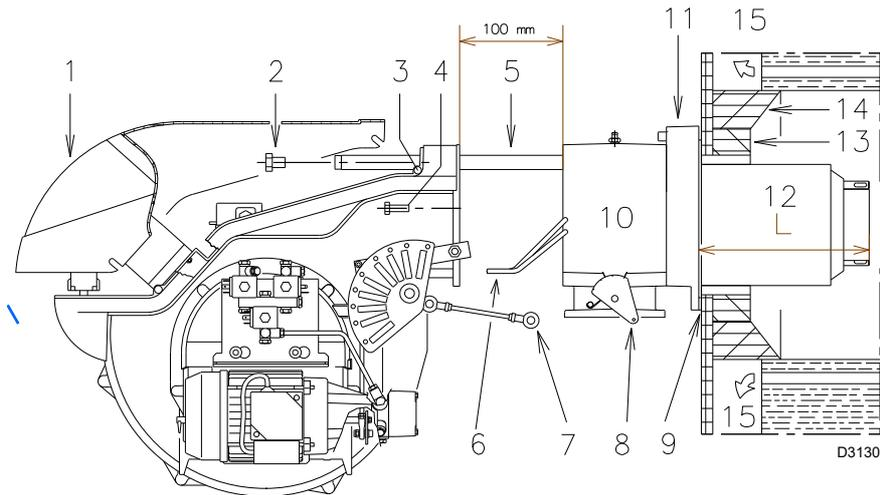
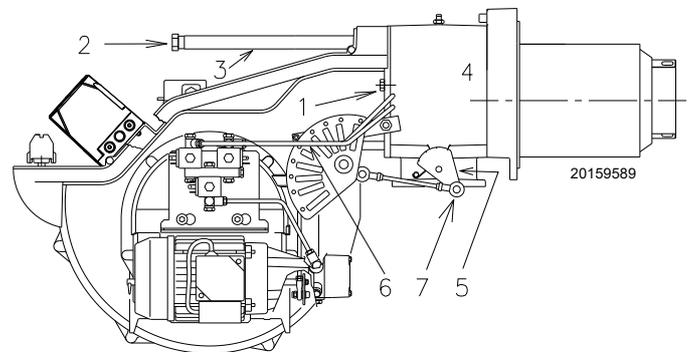

Fig. 15
Fig. 20
For boilers with front flue passes 15)(Fig. 15 on page 20), or flame inversion chamber, a protection in refractory material 13) must be inserted between the boiler fettling 14) and the blast tube 12).
For boilers with a water-cooled front piece, a refractory lining 13)-14)(Fig. 15 on page 20) is not necessary, unless expressly requested by the boiler manufacturer.
Separate the combustion head from the rest of the burner, Fig. 15:
- Disconnect the electrode cables, then completely unthread the burner from the slide bars. Fix the pipe coupling with the flange 11)(Fig. 15) to the boiler plate interposing the insulating gasket 9)(Fig. 15) supplied with the equipment. Use the 4 screws, also supplied, after protecting their thread with an anti-locking product.
Reassemble the burner on the guides 3)(Fig. 20) at about 100 mm from the pipe coupling 4)(Fig. 20); see in the position shown in Fig. 15.
Insert the electrode cables and then slide the burner up to the pipe coupling, the burner in the position indicated in Fig. 20.
Refit screws 2) on slide bars 3)(Fig. 20).
Fix the burner to the pipe coupling with screws 1)(Fig. 20).
Reconnect the light oil pipes by screwing the two fittings 6)(Fig. 15).
Reconnect the articulated coupling 7) to the graduated sector 5)(Fig. 20).